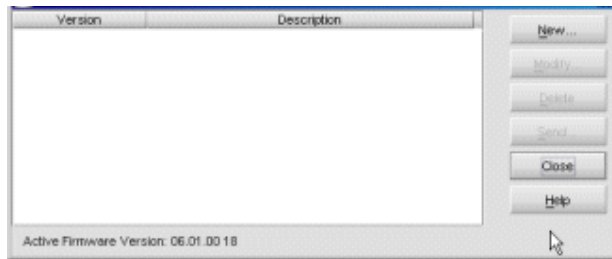

Figure 56: Firmware Library dialog box
3. Select the **Firmware Library** option from the Maintenance menu. The Firmware Library dialog box displays (Figure 56).
4. Choose **Maintenance > Firmware Library**. The **Switch Firmware Library** dialog box displays (Figure 56).